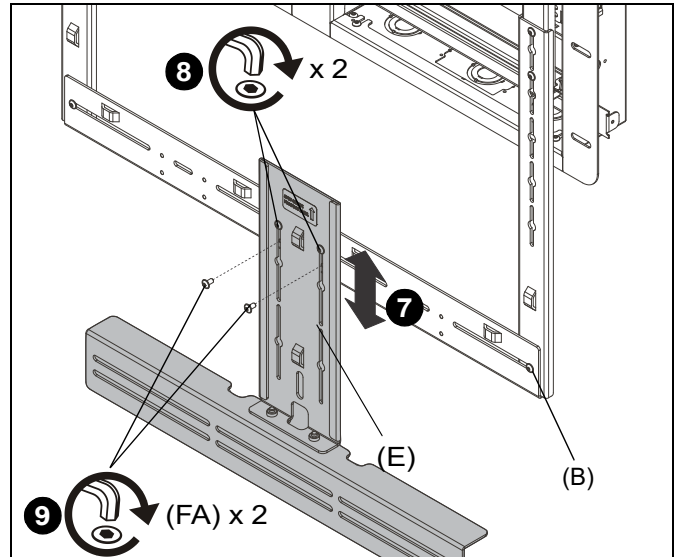

Figure 7
- Move shelf vertically to desired mounting height. (See Figure 7)
- Tighten screws to secure camera shelf at desired mounting height. (See Figure 7)
- Install two additional #10-24 x 3/8" button head cap screws (FA) to secure micro height-adjustment bracket to horizontal bracket (B). (See Figure 7)